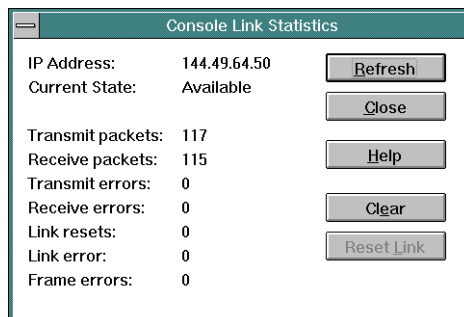

Figure 2-36. *Console Link Statistics Dialog Box*
Select the *Console Link Statistics* option (Figure 2-36) from the *Maintenance* menu of the Director's active matrix window to review the status of the Token-Ring link between the Director and the Console. Statistics include the Internet protocol (IP) address for the Director, the link's current state, transmit/receive packets sent, transmit/receive errors, link resets, link errors, and frame errors. If the current state of the link is "unavailable," select the *Reset Link* button to deactivate and then activate the link in an attempt to restore a lost link.